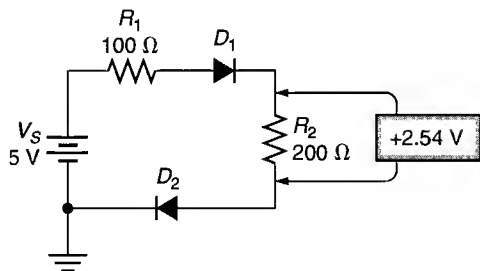

FIGURE 2.46
17. Ignoring the presence of the meter, calculate the value of V_{R2} for the circuit shown in Figure 2.46. Then, determine the percentage of error between your calculated value and the meter reading shown.